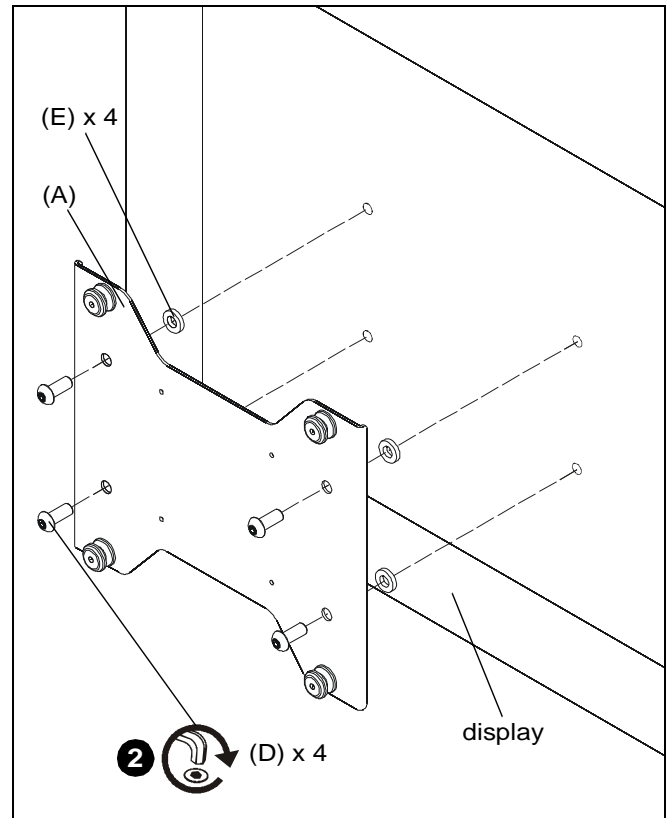

Figure 2
2. Attach bracket to back of display by inserting M8 x 20mm button head cap screws (D) through interface bracket (A) holes, nylon spacers (E) and holes on back of display. (See Figure 2)